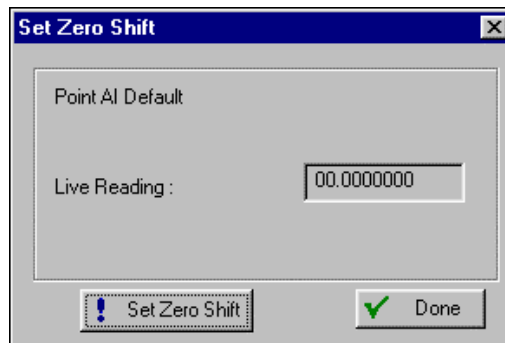

Figure 8-10. Set Zero Shift
3. Under the Diff Press input, click **Zero Shift** to open the Set Zero Shift window shown in Figure 8-10.